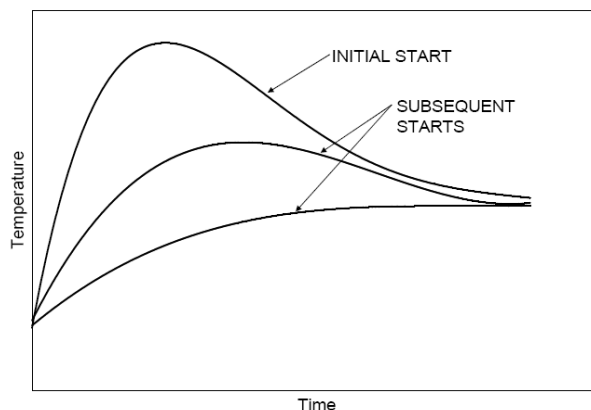

Figure 1. Time versus Temperature Characteristics of a Grease Lubricated Bearing Assembly.
4. After initial start monitor the bearing housing surface temperature. A graph similar to Figure 1) above should be created. Allow the temperature to rise to 105 C (222 F). Shut the pump down and allow the